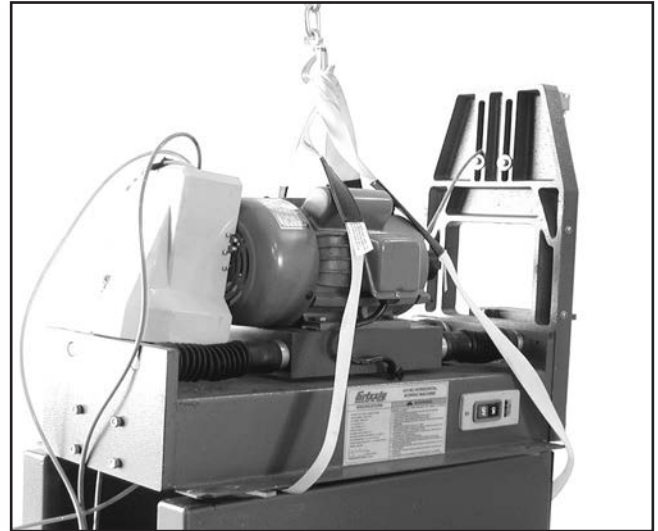

Figure 5. Shows the use of lifting straps.
1. Place the horizontal boring machine on the base using an engine hoist or get assistance. See **Figure 5**.